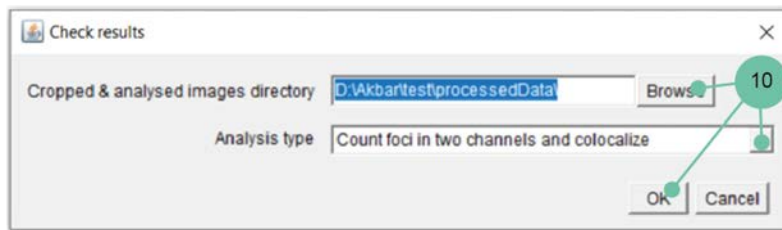

Figure 3.12. The check results menu
**STEP 10.** In order to control the precision of the analysis, if the "save ROIs" option was selected, the "Start checking results" option should be utilized from the main meiosis bar (fig. 0). This will trigger the appearance of the "Check results" window (as shown in figure 3.12). If you have just executed the macro, then the default folder and method should suffice. However, if you wish to scrutinize the macro's results at a later stage, make sure to specify both the right folder and the "Count axis/off-axis foci in two channels and colocalize" method.